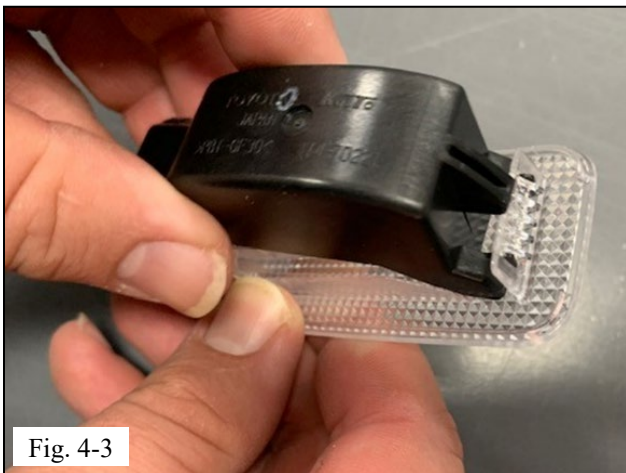

Fig. 4-3
- (b) Reinstall the trunk light back shell by inserting the locking tabs into lens (Fig. 4-3).